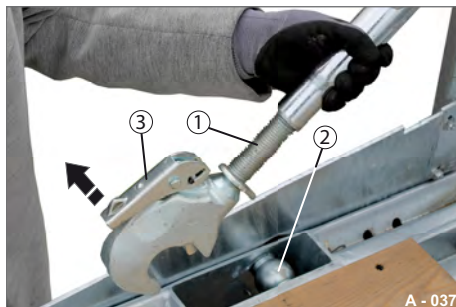

Fig. 57 Disengaging the securing rod (bottom)
- ▶ Pull the bottom linkage with hook (Fig. 57/1) out of the ball pin (Fig. 57/2).
- ▶ Close the arrester (Fig. 57/3).